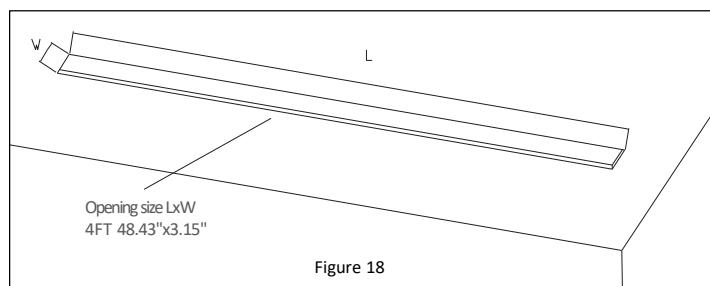

Figure 18
1. Cut an opening in the area the fixture will be installed. *See Figure 18.*